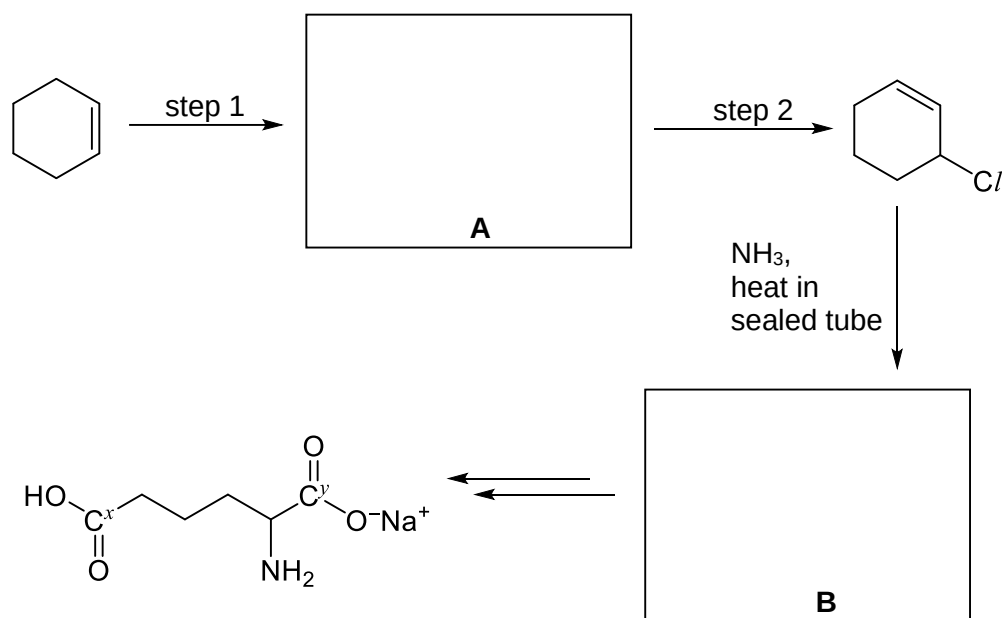

Fig. 2.1
- (iii) Food flavours enhanced by the MSG synthesised in the laboratory according to Fig. 2.1 might taste differently from flavours enhanced by naturally occurring MSG. Suggest why this is so.